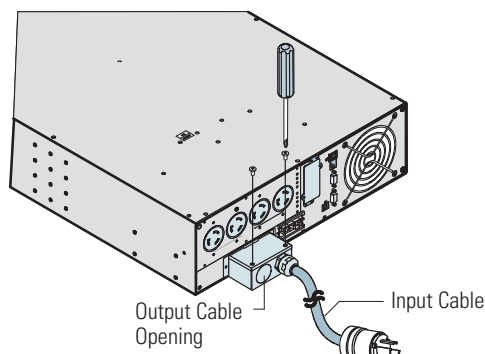

Figure 21. Removing the Terminal Block
- Before carrying out any connection, check that the battery circuit breaker and UPStream protection device (utility input) are OFF (O).
1. Remove the terminal block cover (two screws) with the supplied screwdriver (see Figure 21).